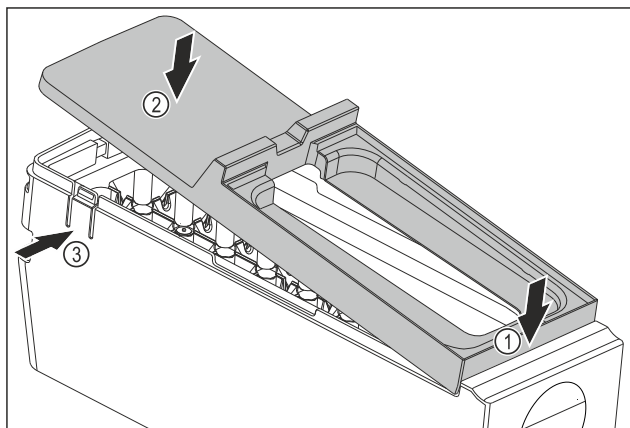

Fig. 161
- Installing the EasyTwist-Ice body cover: Place the cover on the front. Fig. 161 (1)
- Lower the cover at the rear. Fig. 161 (2)
- The cover locks into both tabs Fig. 161 (3) audibly.